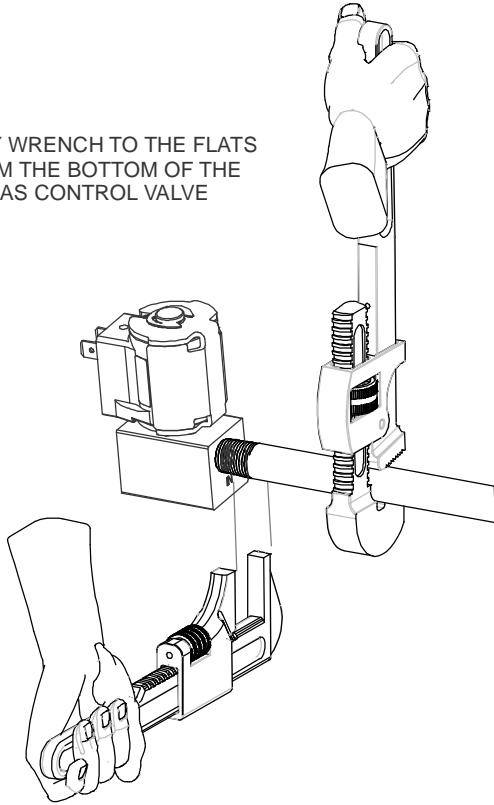

Figure 3: Proper Use of Wrench on Gas Control
10. Connect pipe to gas control inlet and outlet. Use a wrench on the square ends of the control. If a flange is used, place the wrench on the flange rather than on the control. This process should be used for both the installation and removal of the valve in a gas system (see Figure 3).